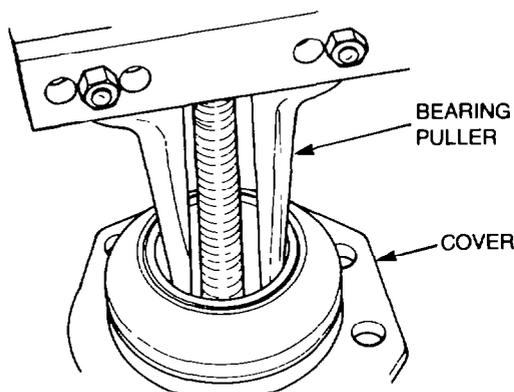

Figure 305 — Cover Bearing — Removal
- k. Using a suitable puller as shown in Fig. 305, remove the needle roller bearing from the cover.